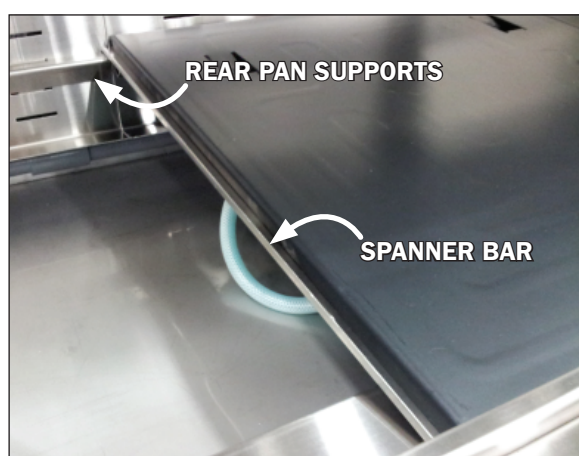

Fig. 17 Spanner bar & rear pan support
1. Spanner bars (Fig. 17) are a very important support for Coolgenix pans.
3. Rear pan supports (Fig. 17) are used to supply support to the back of the Coolgenix pans, as well as allow for adjusting the angle and height of the pans.